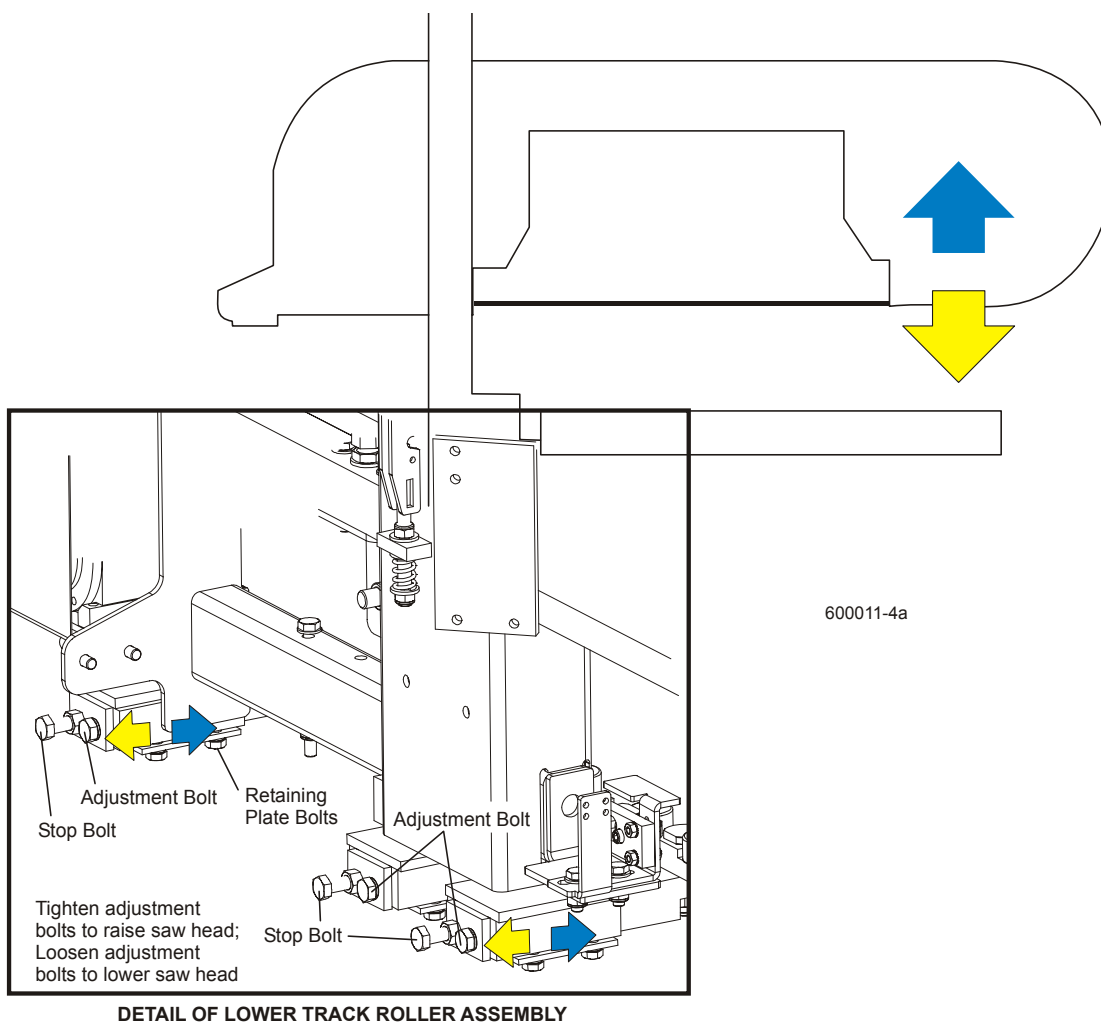

FIG. 5-2
**See Figure 5-2.** To adjust the saw head tilt, use the bolts located at the bottom of the saw head mast. Loosen the three sets of four retaining plate bolts. To raise the outside of the saw head, back the stop bolts out, then tighten the adjustment bolts. To lower the outside of the saw head, loosen the adjustment bolts and tighten the stop bolts. Recheck the measurement from the blade to the bed rails and adjust the stop bolts and adjustment bolts until the outside of the saw head is 1/26" (1mm) higher than the inside. Retighten the retaining plate bolts.